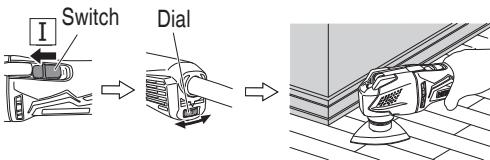

Fig. 7
- Switch the unit on and use the dial to set the speed of the application tool. (Fig. 7)
- Lightly place the application tool on the material and move the application tool back and forth at a pace where the movement isn't slowed. (Fig. 7)